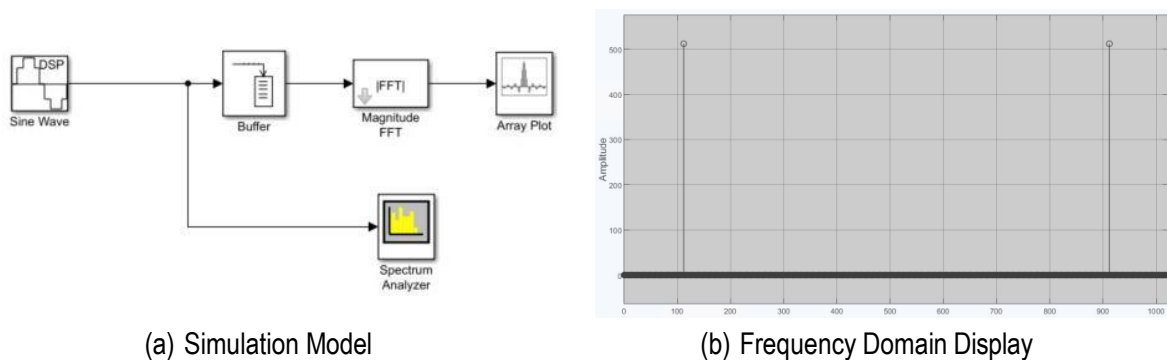

Figure 2. A Model for Visualizing Time and Frequency Domain
4. Connect the blocks as shown in Figure 2(a) (a path with Buffer → FFT → Array Plot).